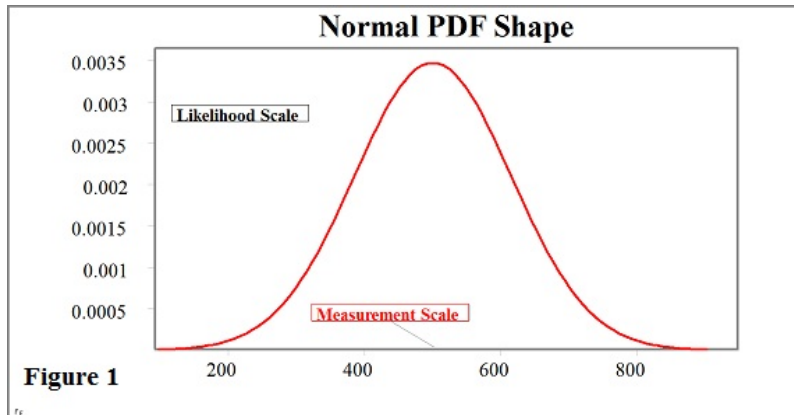

Figure 1
**rejected** because it was not the normal distribution! The normal distribution probability density function (PDF) has only one basic shape (Figure 1 below) which may be either wider-and-shorter or thinner-and-taller, but it always takes a bell-like shape. It is sometimes called the **bell curve**, and sometimes called the **Gaussian** distribution in honor of **Johann Carl Friedrich Gauss**. The normal distribution applies when modeling variability in such cases as plus/minus error measurements, student test scores, performance variability, X-bar quality control charts, and miss-distance for a machining operation. There is also something called **the central limit theorem** which explains why the normal distribution fits well when many additive effects are mixed in the data.
Figures 1 and 2 above represent probability density function (PDF) shapes. All PDF's (Weibull or normal or whatever) are identical in one respect, i.e. the area underneath any PDF curve is exactly one (1) or 100%. So the PDF represents 100% of where to expect a similar measurement. The amount of area under the PDF curve, to the left of any point along the PDF plot horizontal measurement scale, is the cumulative distribution function (CDF) form. The CDF is simply another way to express the same model. The CDF representation is more useful for answering questions about variability such as . . . **How long can a product go with only a specific proportion of failures expected?** A Weibull CDF plot is displayed in Figure 3 below for the worked-out example of WE analysis at the end of this introduction.